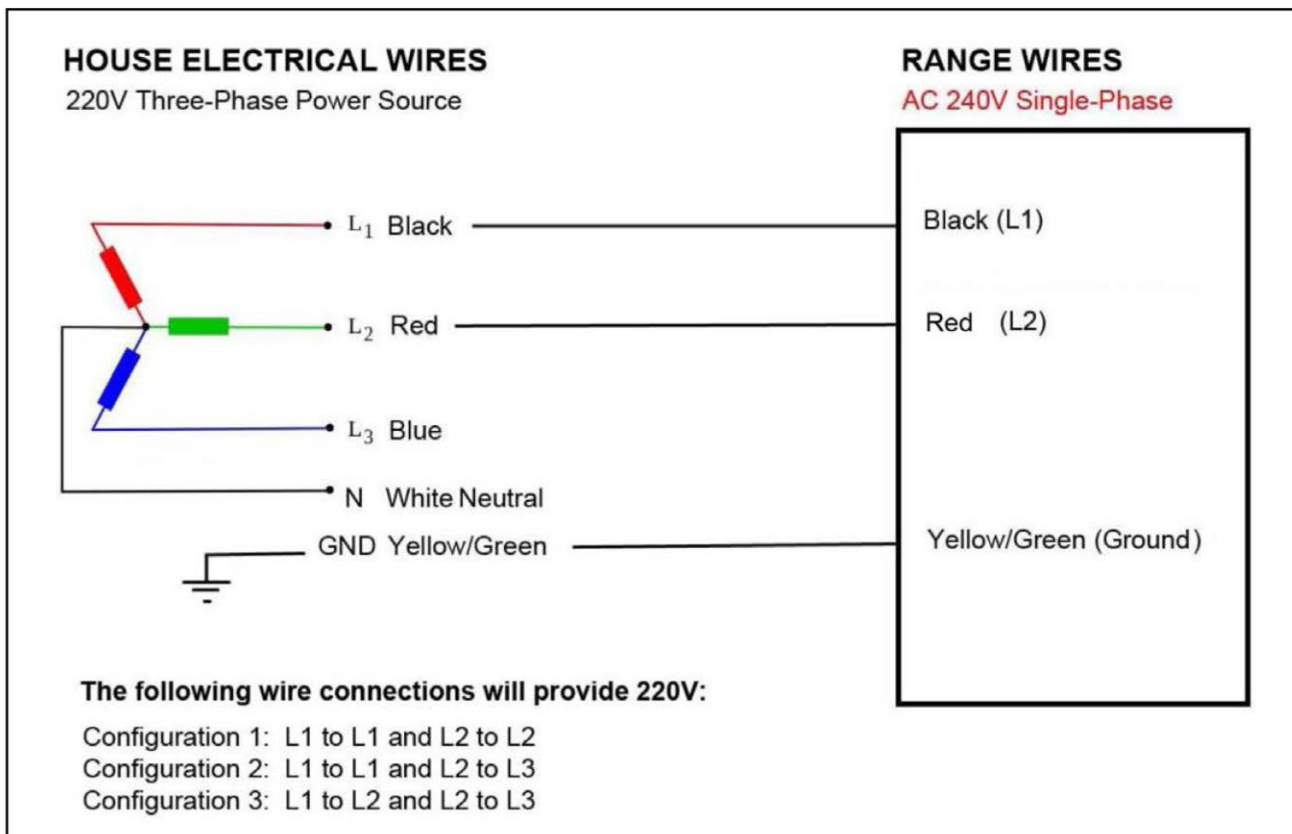

Figure 24
- 2) Follow the diagram below to know how to connect the freestanding range wires to the electrical main wires of the home. (See Figure 24)